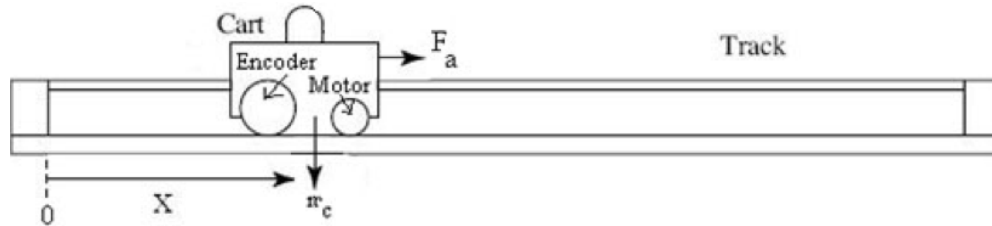

Figure 5: Free body diagram of the cart (ignoring friction)
Figure 5 shows the cart’s free body diagram. For simplicity, we will ignore the effects of friction. In the diagram, F_a is the input force exerted on the cart by the voltage applied to the motor, m_c is the mass of the cart. The encoder is used to keep track of the position of the cart on the track.
Using Figure 5 and basic Newtonian dynamics you can derive the equations governing the system.
Derive the following equation of motion for the cart system shown in Figure 5:
1. Using the free body diagram in Figure 5, apply Newton's second law to the cart.
2. Combine the motor dynamics, equations (1) - (4), to obtain the relationship between the input voltage V and the applied force F_a . Substitute this relationship into your equation from Step 1. This is the final model of your plant.